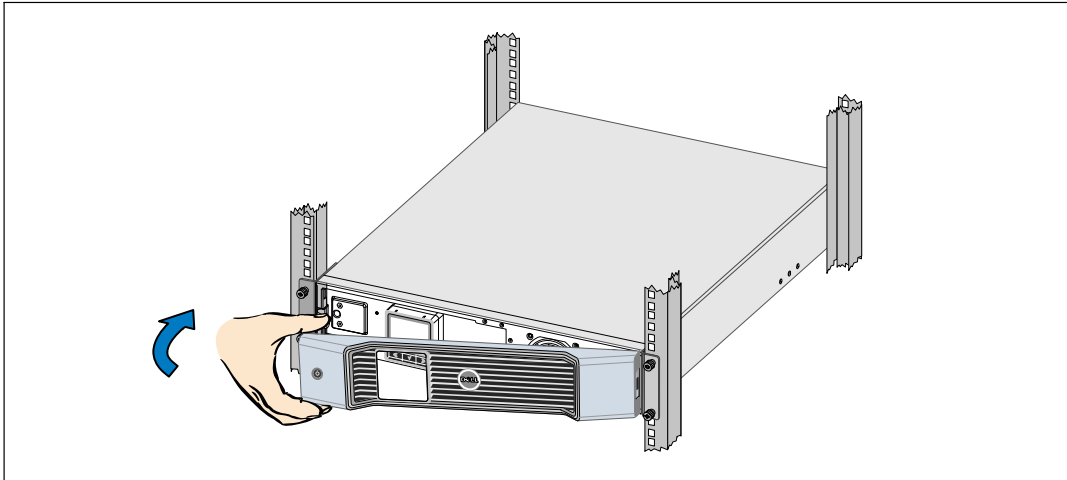

Figure 37. Replacing the UPS Front Cover
- 8 Replace the UPS front cover (see Figure 37).